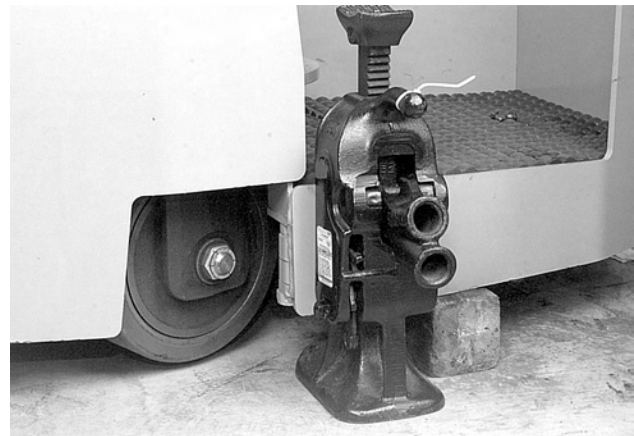

Figure 2-5: Jacking Tractor
7. To jack the tractor: Place the jack in the designated jacking position near the steerable wheel. See Figure 2-5. Jack the truck so that the steerable wheel is off the floor no more than 1 in. (25.4 mm). Block under the frame as shown.